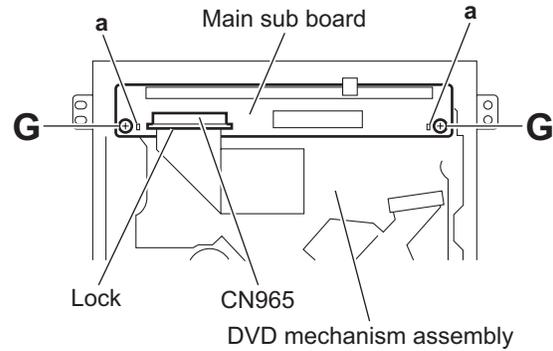

Fig.10
When the resolution of DVD mechanism assembly is done sequentially, remove the main sub board. (See next Fig.10.)
3.1.6 Removing the main sub board (See Fig.10)